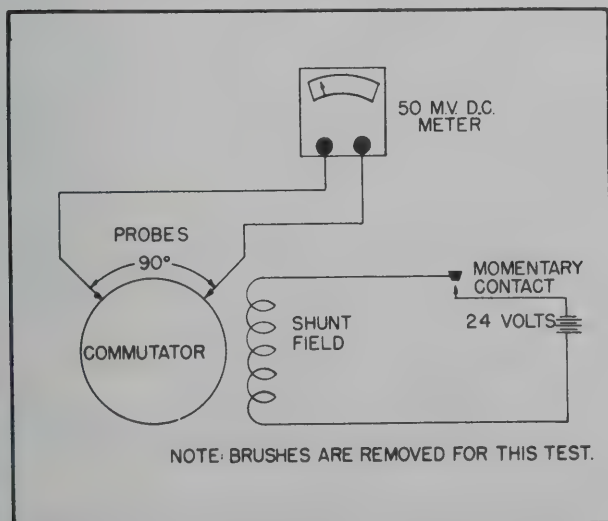

Figure 9-4. Neutral Setting Wiring Diagram
9-4. SETTING BRUSH NEUTRAL. (See figures 9-4 and 9-5.)
b. Connect a DC millivoltmeter (0-50 millivolts) such as used to measure DC amperes in conjunction with an external shunt to a pair of insulated test probes. (See figure 9-4.)